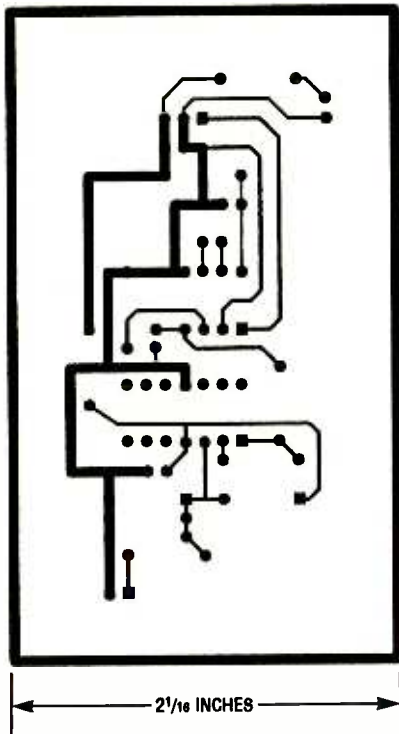

Fig. 2. It is recommended that you use this foil pattern for making your own adapter circuit board.
**Construction.** The circuit should be constructed using a printed-circuit board. You can obtain one from the author (see Parts List for ordering information), etch your own using the pattern in Fig. 2, or design your own.